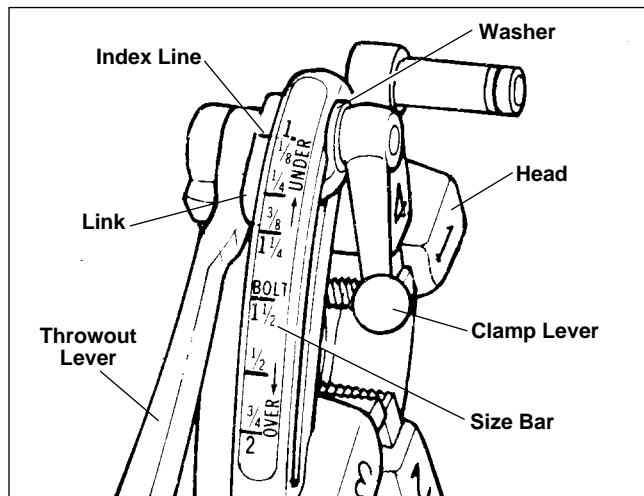

Figure 11 – Universal Quick-Opening Die Head
6. Quick-Opening 811A Die Head (*Figure 11*) – When thread is completed, raise throwout lever to open position, retracting dies.
The No. 811A Universal Die Head (Figure 11) for right hand threads requires four sets of dies to thread pipe ranging from 1/8" through 2". One set of dies is required for each of the following pipe size ranges: (1/8"), (1/4" and 3/8"), (1/2" and 3/4") and (1" through 2"). Bolt threading requires a separate set of dies for each bolt size. No bolt dies are available for left hand universal die heads.